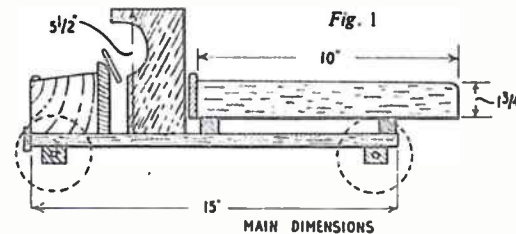

Fig. 1
The body of the truck may now be cut and assembled, the measurements for the body base being 6 1/2ins. by 10ins. Tail-board portion measurements are given in Figs. 1 and 2. Both sides of the
tail-boards are rounded at the back. Situated on the base are two blocks of wood (C) to support the body. These span the width of the truck, positions being shown in Fig. 1.